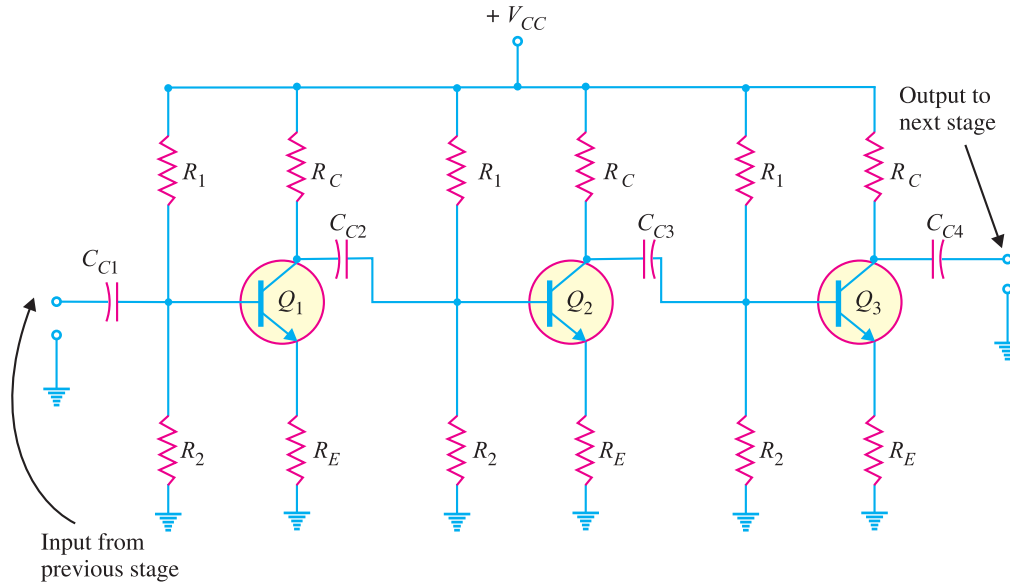

Fig. 11.2
1. As coupling capacitors. In most applications, you will not see a single transistor amplifier. Rather we use a multistage amplifier i.e. a number of transistor amplifiers are connected in series or cascaded. The capacitors are commonly used to connect one amplifier stage to another. When a capacitor is used for this purpose, it is called a *coupling capacitor*. Fig. 11.2 shows the coupling capacitors (C_{C1} , C_{C2} , C_{C3} and C_{C4}) in a multistage amplifier. A coupling capacitor performs the following two functions :